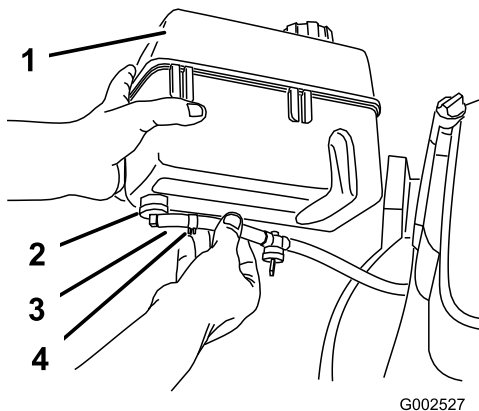

Figure 5
1. Slide the end of the fuel line onto the elbow fitting (Figure 5).
2. Secure the fuel line in place with the fuel line clamp (Figure 5).